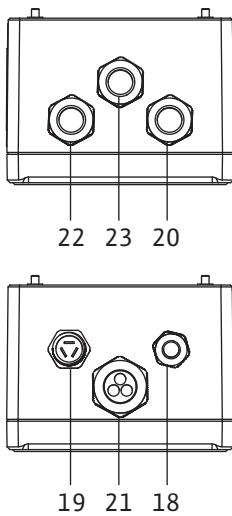

Fig. 20: Cable inlets
2. Loosen screwed connection 19 (Fig. 20) on the control device.